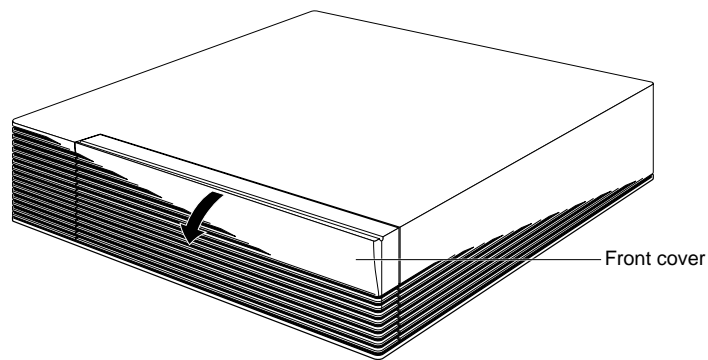

Figure 2-2 Opening the Front Cover of the Indigo² Chassis
- Snap the cover away from the top edge of the chassis and tip it down, as shown in Figure 2-2.